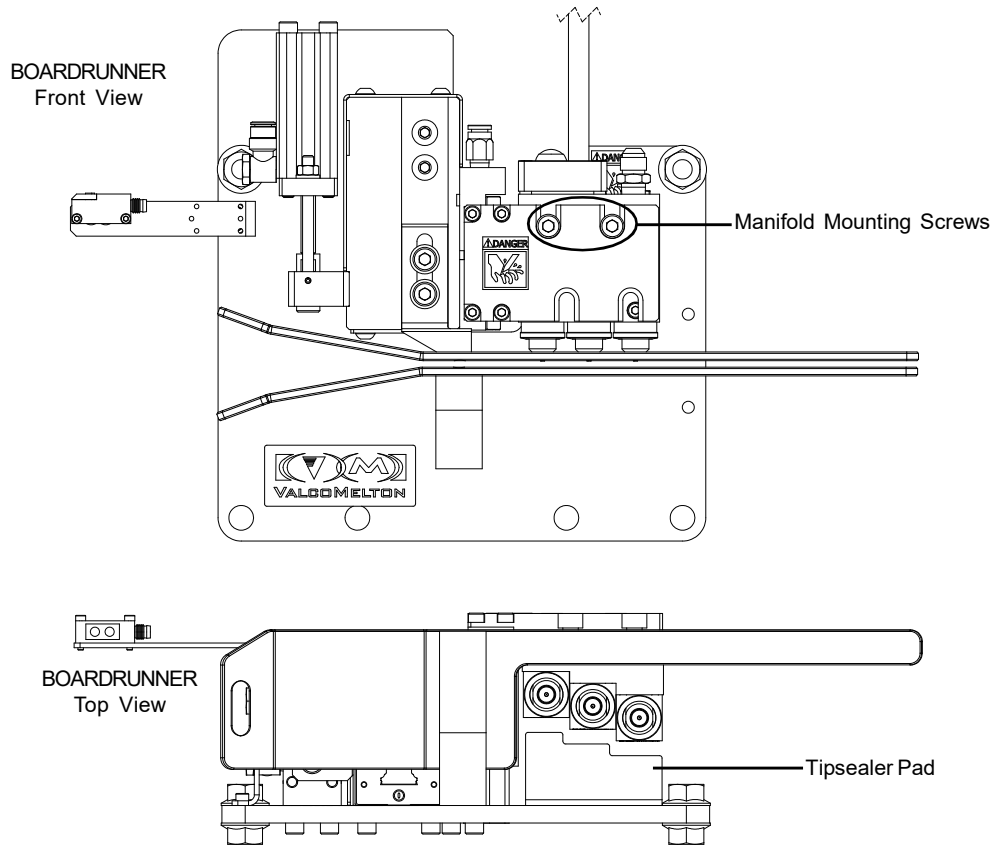

Figure 4-7. Tipsealer
When products stop running/flowing, the manifold assembly will move up, back and down, placing all three nozzles contacting the Tipsealer (Figure 4-7).
2. Use a 6mm hex wrench to loosen the manifold mounting screws (refer to Figure 4-7).